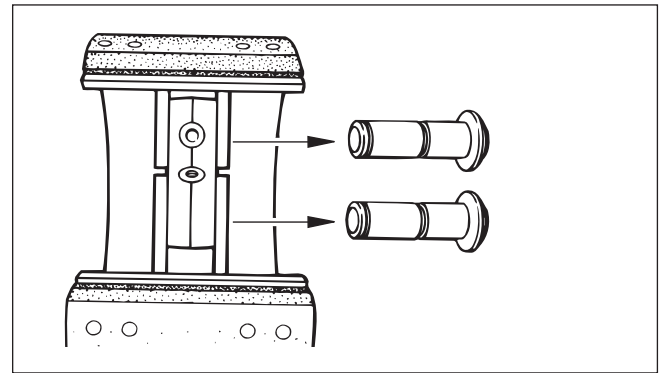

Figure 21 – Anchor Pin Removal
3. To remove the upper and lower shoes, remove the anchor pins with a brass drift or a mallet. Refer to Figure 21.